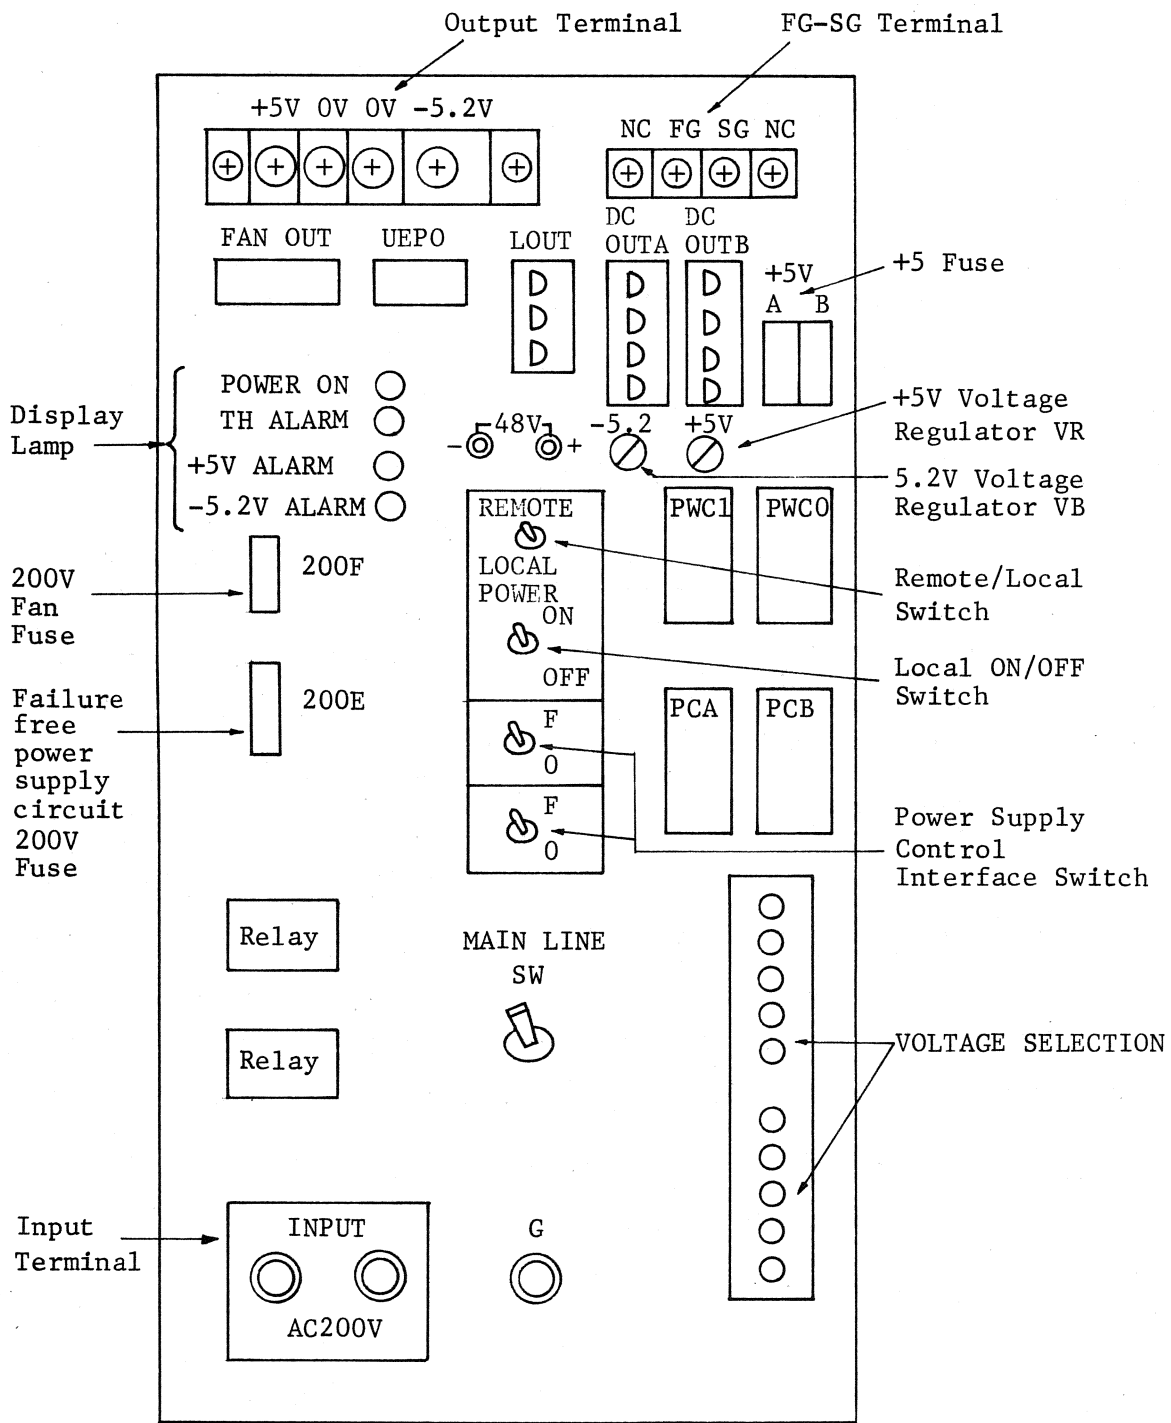

Figure 4.53 External view of power supply operation panel
- (2) Provided with an overload protection circuit.
- (3) Features DC output sequence operation function as well as a warning display for abnormal power supply.
- (4) Features a power supply control interface.
- (5) Automatic breaker activated by temperature alarm etc.
- (6) Emergency breaking by UEPO switch.
- (7) Illustrated in Figure 4.53.